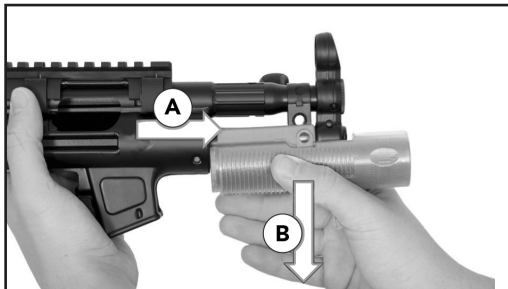

Fig. 38 – Remove pistol grip
7. Pull handguard towards muzzle Ⓐ and downwards Ⓑ to remove it (Fig. 38).